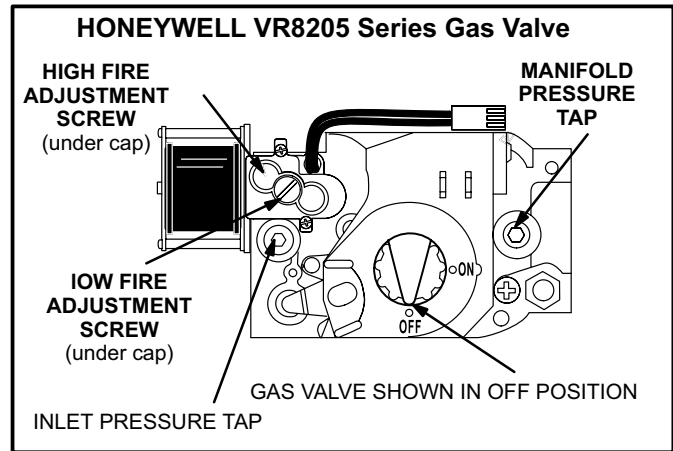

FIGURE 14
The G60UH(X) uses a two-stage gas valve manufactured by Honeywell (figure 14). The valve is internally redundant to assure safety shut-off. If the gas valve must be replaced, the same type valve must be used.
- 6 - *Honeywell VR8205 Gas Valve* - Turn knob on gas valve clockwise ➡ to **OFF**. Do not force. See figure 14.
8 - *Honeywell VR8205 Gas Valve* - Turn knob on gas valve counterclockwise ↶ to **ON**. Do not force. See figure 14.
When testing supply gas pressure, connect test gauge to inlet pressure tap on the unit gas valve (GV1). See figure 14. Check gas line pressure with unit firing at maximum rate. Low pressure may result in erratic operation or underfire. High pressure can result in permanent damage to gas valve or overfire. See table 15 for operating pressure at unit gas connection (line).
- 1 - Connect a test gauge to manifold pressure tap on gas valve. See figure 14 for tap location. Start unit and allow 5 minutes for unit to reach steady state.